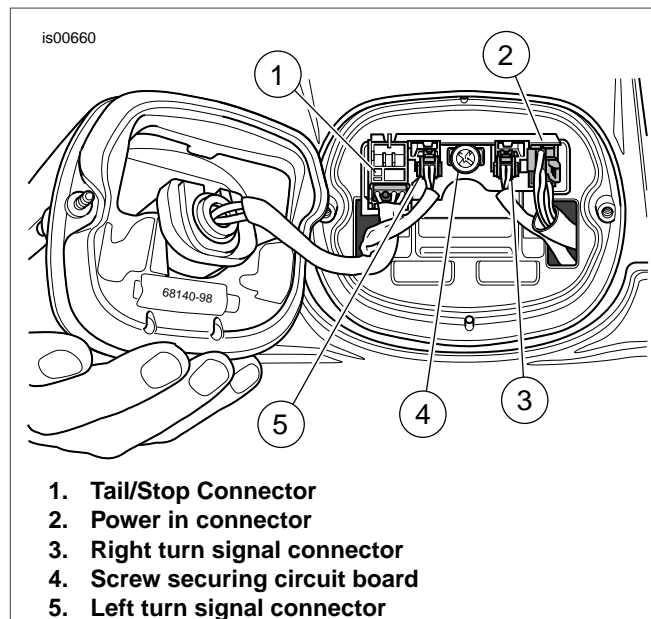

Figure 1. Remove Connectors
5. See Figure 1. Remove two screws and tail light lens from the tail light base. Disconnect the tail light connector (1) and set the tail light aside.
6. See Figure 1. Disconnect the turn signal connectors (3 and 5) and harness connector (2).
3. See Figure 1. Connect turn signals connectors (3 and 5), tail light connector (1), and power harness connector (2).